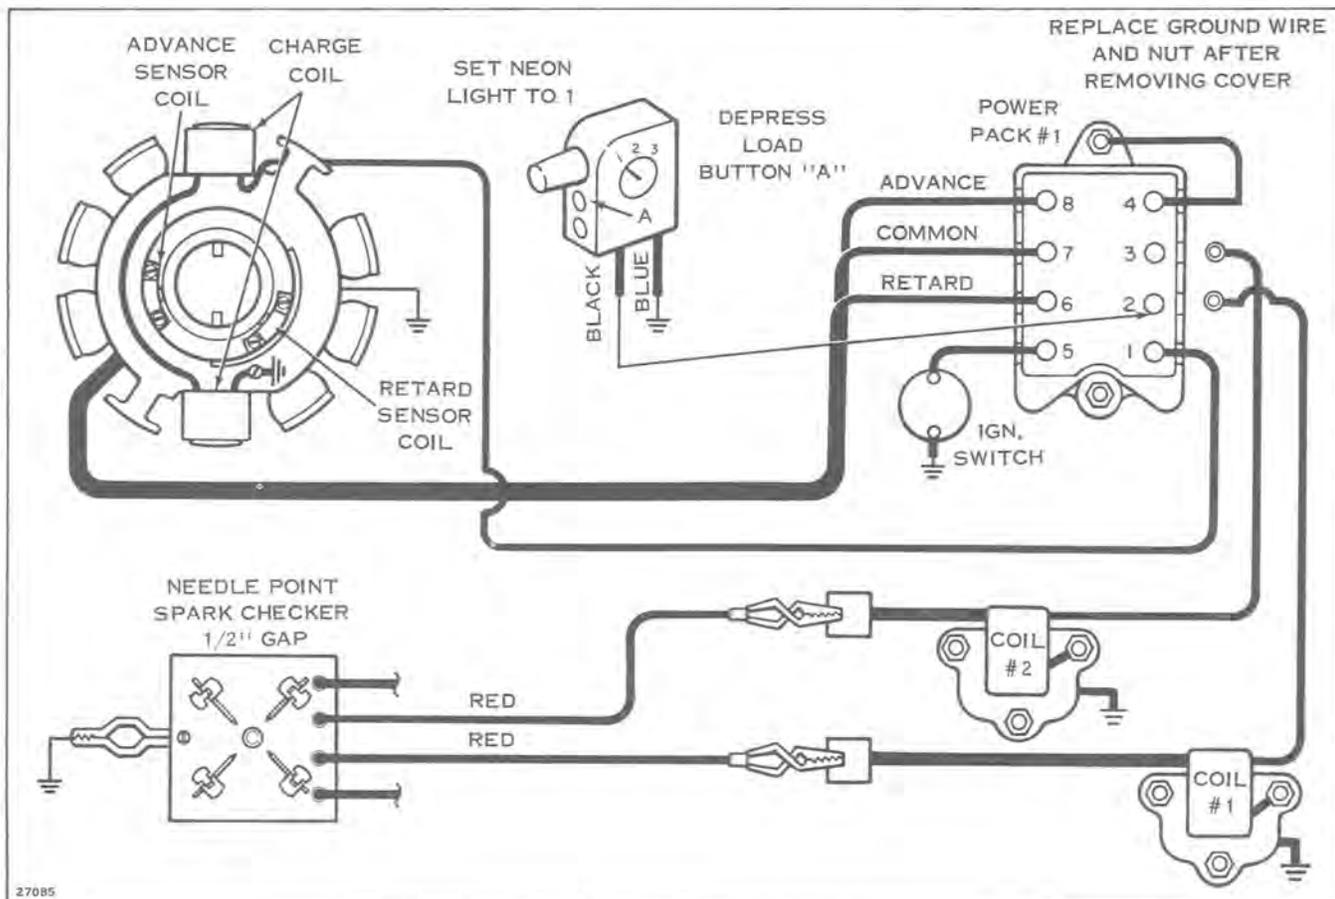

Figure 7-17
- B. Use neon tester S80 or M80. Set rotary switch on tester to position #1. Hook tester black lead to Power Pack I terminal #2 or #3, and tester blue lead to engine ground. See Figure 7-17.